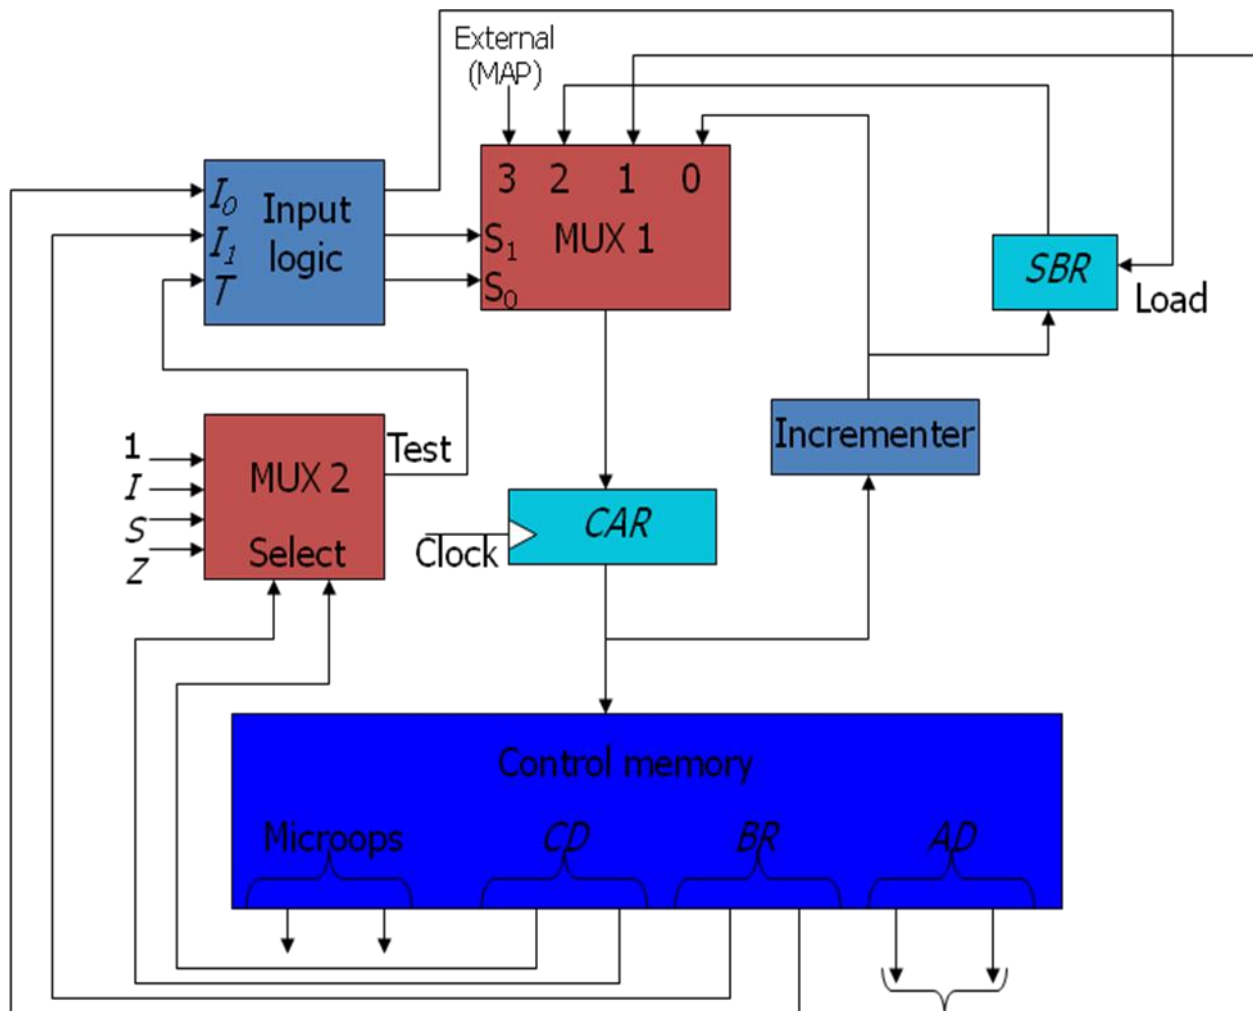

Fig 3-12: Microprom Sequencer for a Control Memory
- The block diagram of the microprogram sequencer is shown in Fig. 3-12.